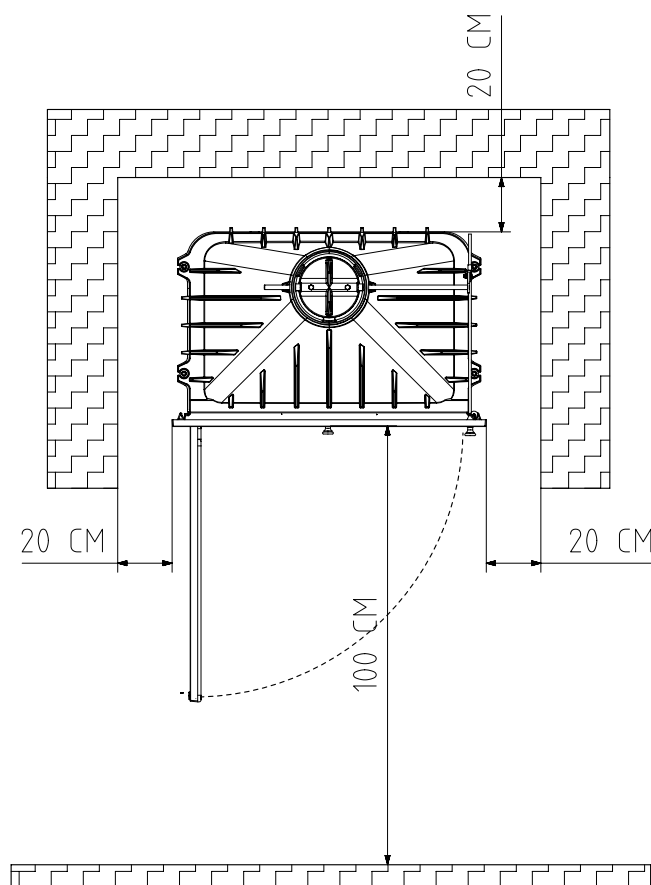

FIG. 7
- Keep any flammable material (furniture, curtains, clothes...) away from the fireplace, at a safe distance of at least 0,90m. (Fig. 7)